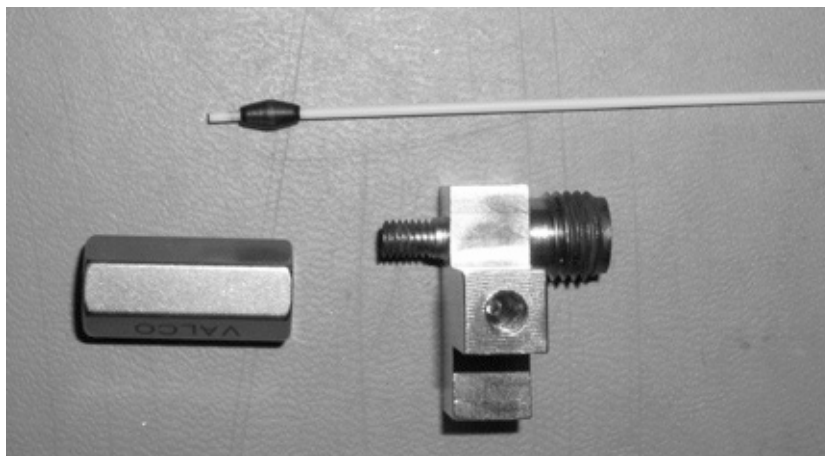
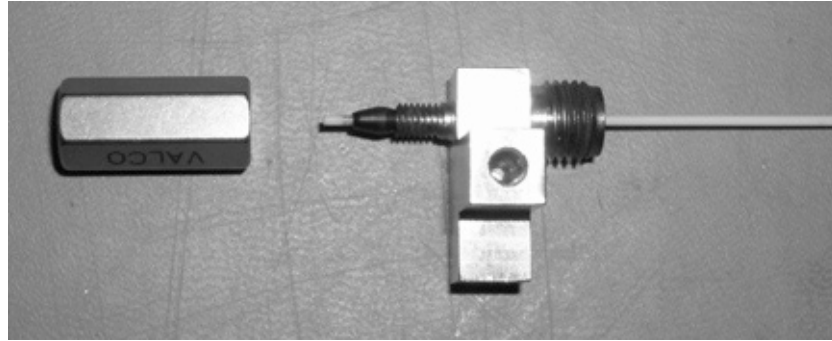

Figure 37 Orientation of the Double Taper Ferrule
Figure 38 Positioning the Upper Tube in the Union Fitting
- 9 Slide the upper ceramic tube into the splitter fitting, so that approximately 4 mm of the tube extends beyond the top of the fitting. Then, slide the double taper ferrule onto the tube (see Figure 37 and Figure 38 for proper positioning). Gently holding these parts so that neither the ferrule nor the upper ceramic tube slip out of position, finger-tighten the union fitting onto the splitter fitting.